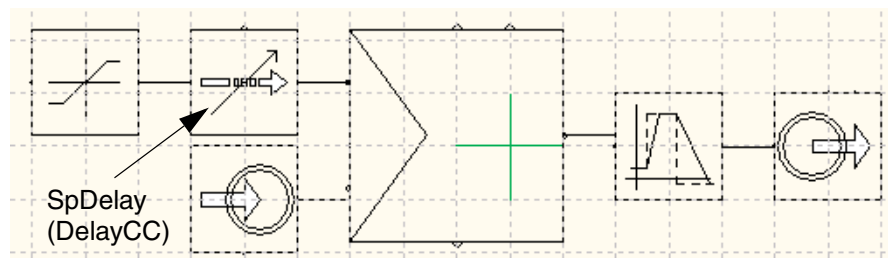

Figure 92. The result in of the new control solution in CMD editor
- Create an instance of DelayCC type (ControlExtendedLib) with instance name SpDelay and add it between the SpLim and Pid control modules. Make sure that the graphical connections are correct. See Figure 92.